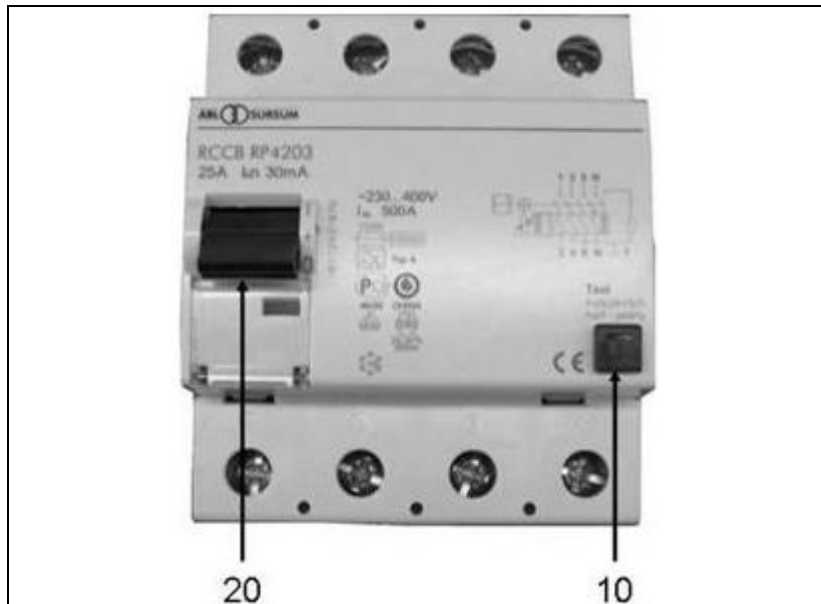

Fig. 5-1: FI protection switch
2. Additionally, every work day, the user must check the mechanical operation of the release by activating the test button on the residual current protection device (RCD) (see *unterhalb Fig. 5-1 -10*).
2. Put the protection switch (see Fig. 5-1 -(20)) into position 1.
3. Activate the test switch (see Fig. 5-1 (10)).
- ✓ The switch position displays the result (see Fig. 5-1 (20)):